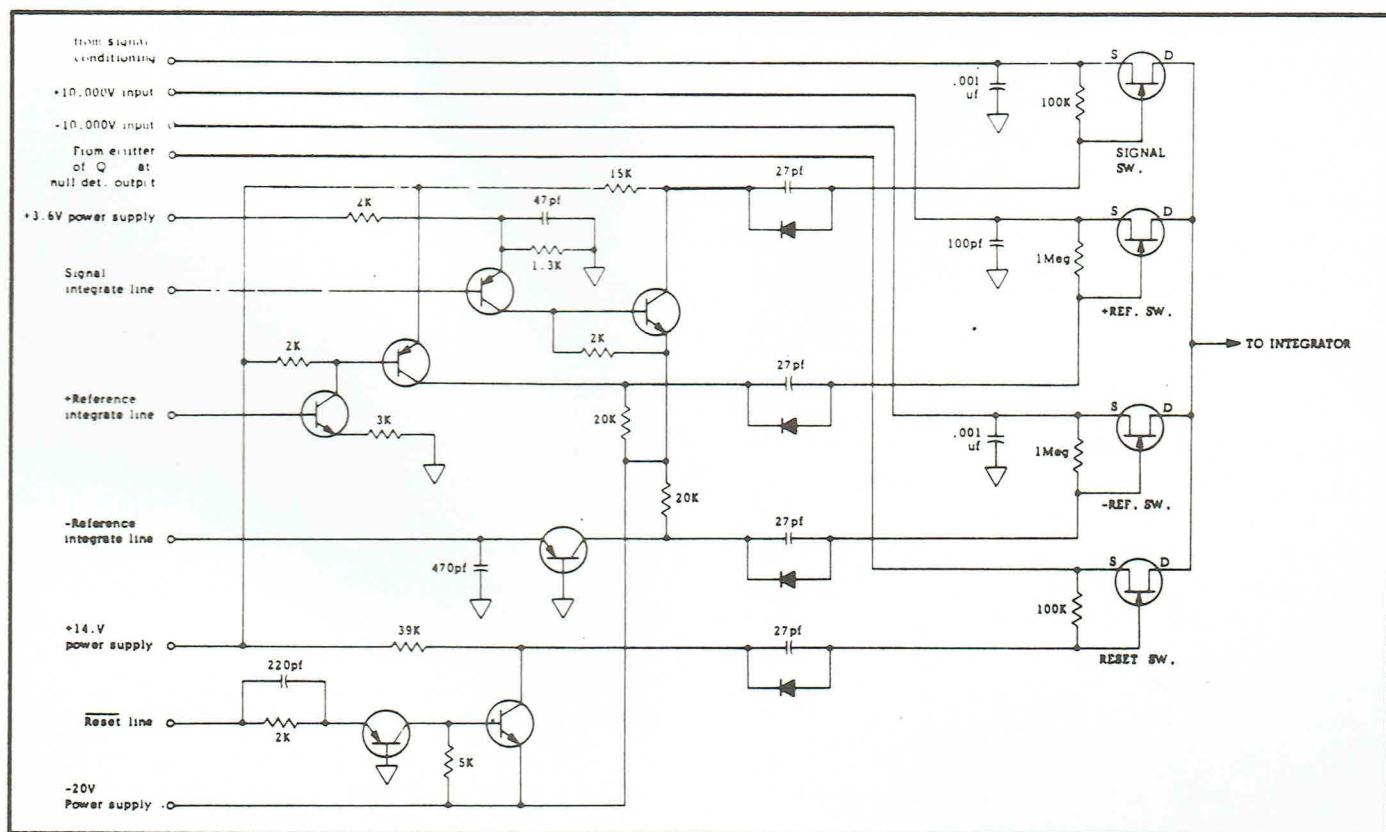

Figure 4.5 - Schematic, FET switches and switch drivers
4.37 The four switches at the input to the Integrator are N-channel, field-effect, junction transistors. They are driven by circuitry composed of discrete components. The FET switches and their driving circuitry are shown in figure 4.5. The source and gate of each FET are connected to each other through fairly high value resistors (100K or 1 Meg). The gate of each FET connects to the driving circuitry through a series diode whose cathode connects to the collector of the driving transistor.